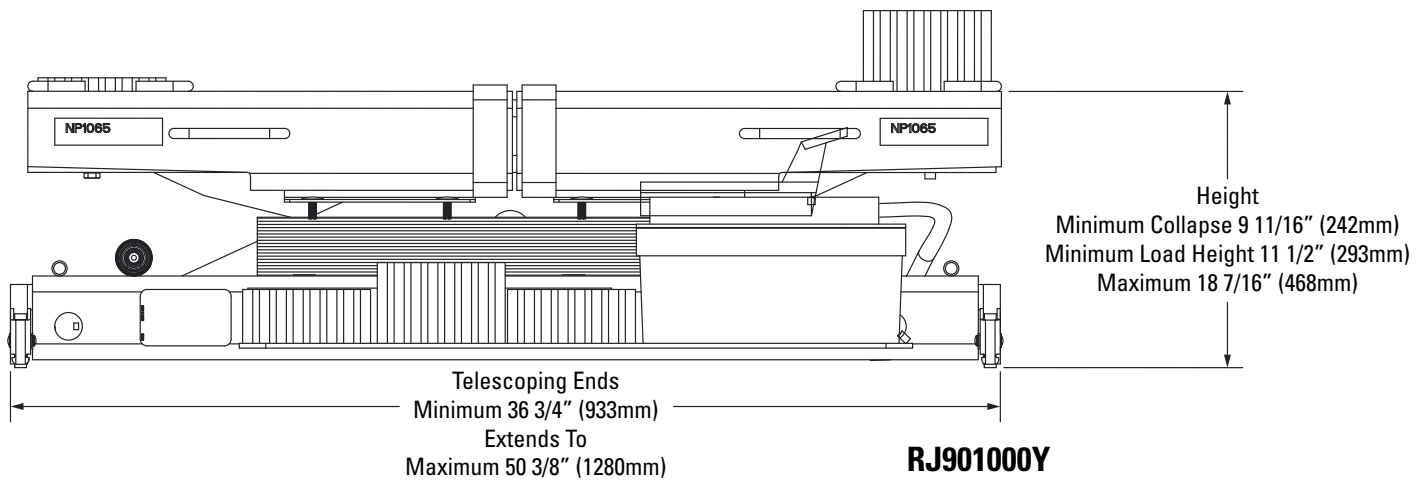

Fig. 2
- B. RJ901000Y: The rail engaging wheels shall be adjustable for an inside runway width of 36 3/4" (933 mm) minimum to a 50 3/8" (1280 mm) maximum Fig. 2.
- C. The rolling jack shall be equipped with three (3) different sized rubber pads 1/2", 1 1/2" and 3".
- F. The rolling jack shall be moveable on four (4) heavy duty urethane compression wheels. Actual vehicle load to be transferred to jack end section load bars engaging the roller track assembly.